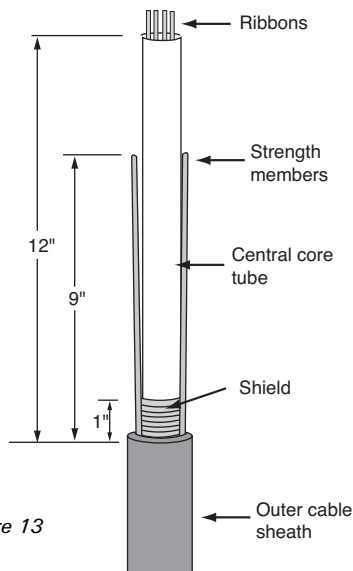

Figure 13
2. If dual strength members (e.g., LXE) or multiple metallic strength members (eg., crossply) are present: expose each strength member and cut it off 9" from the ring cut. (Figure 13)
4. If metal shield is present: Remove all but 1" of the metal shield. (Figure 13) Pry open a 1" tab in the exposed metal shield where the shield overlaps. Crimp the bond clamp onto the edge of the shield.
6. Carefully cut the central core tube 12" from the sheath ring cut. (Figure 13)